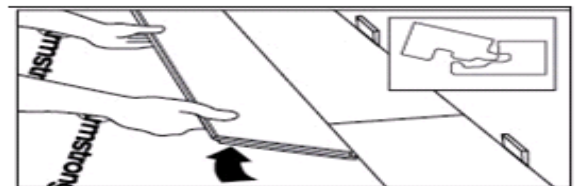

Fig. 12
10. Install the long end of the first board at an angle to the board in the previous row. Keep this board at its natural angle slightly raised off the subfloor (Fig. 12). Use a scrap piece of laminate to support the row if needed.